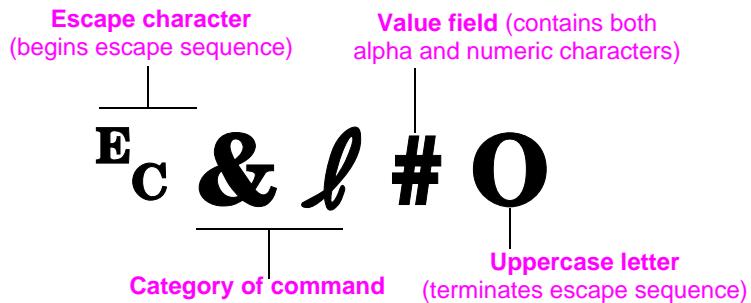

Figure D-1 Printer Command Elements
Figure D-1 displays the elements of a typical printer command (in this instance, a command for page orientation).
- 1 The first two characters after the E_c character (the parameterized and group characters, see Figure D-1) must be the same in all of the commands to be combined.